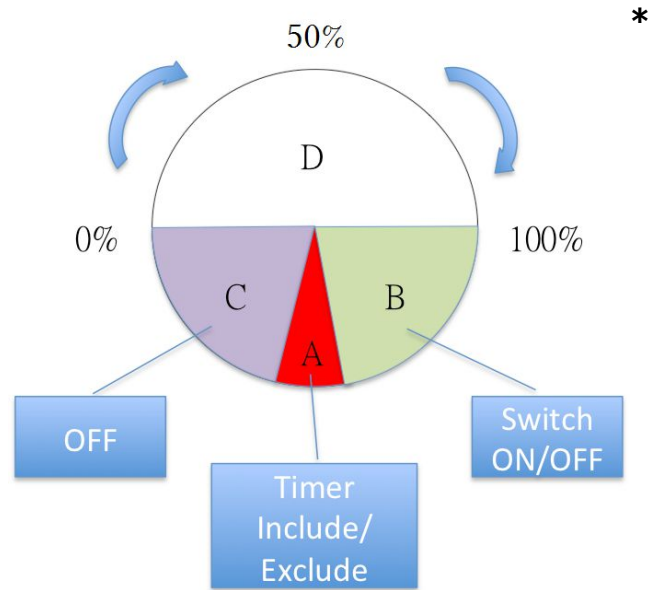

Figure 1
In the first time, add the device into the Z-Wave™ network. Make sure the primary controller is in the add mode. And then power on the device through micro USB. The device will auto start the NWI (Network Wide Inclusion). Red LED will flash every second and continue 30 seconds. And it should be included in 5 seconds. Red LED will light ON one second. If pressed the button once, The device will auto start the NWI(Network Wide Inclusion) When don't include Z-Wave™ network after NWI(Network Wide Inclusion). Rotating to area A(shown in Fig. 1) and pressed 3 times can abort NWI mode.
1. Include: Rotating the point on the cover to area A first (shown in Fig. 1). Pressing the button three times within 1.5 seconds. The red LED will light up for 1 second if succeed.
This device is able to set different level by rotating to different angle. If rotating the device, The surround LED will turn white in area A(shown in Fig. 1). Rotate the device to area B(shown in Fig. 1) then pressed the button can turn On the device to group 2. Rotate the device to area C(show in Fig. 1) then pressed the
button can turn Off the device to group 2. The device will send different level to group 2 in area D(show in Fig. 1) when pressed the button. It will send to group 2 automatically 1 second after rotating stop.
This device is able to work as a binary switch by pressing the button when fixed on the wall. Rotate the device to area B(shown in Fig. 1) then pressed the button can turn On the device to group 2. Rotate the device to area C(show in Fig. 1) then pressed the button can turn Off the device to group 2.